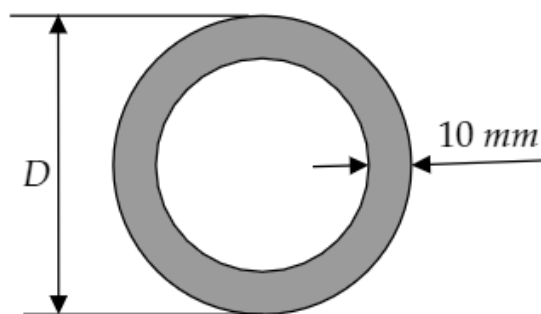

Figure Q4: Hollow circular cross-section.
- b) A hollow cast iron cylinder of outside diameter D and wall thickness of 10 mm (**Figure Q4**) is to carry a compressive load of 100 kN. Compute the required outside diameter D , if the working stress in compression is 80 N/mm^2 .